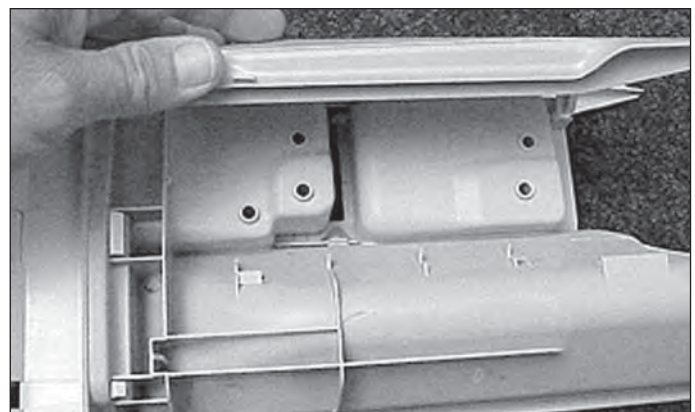

Figure 4-14.
4. To remove the conveyor, release the conveyor from the tabs and lift it off. (See Figure 4-14)